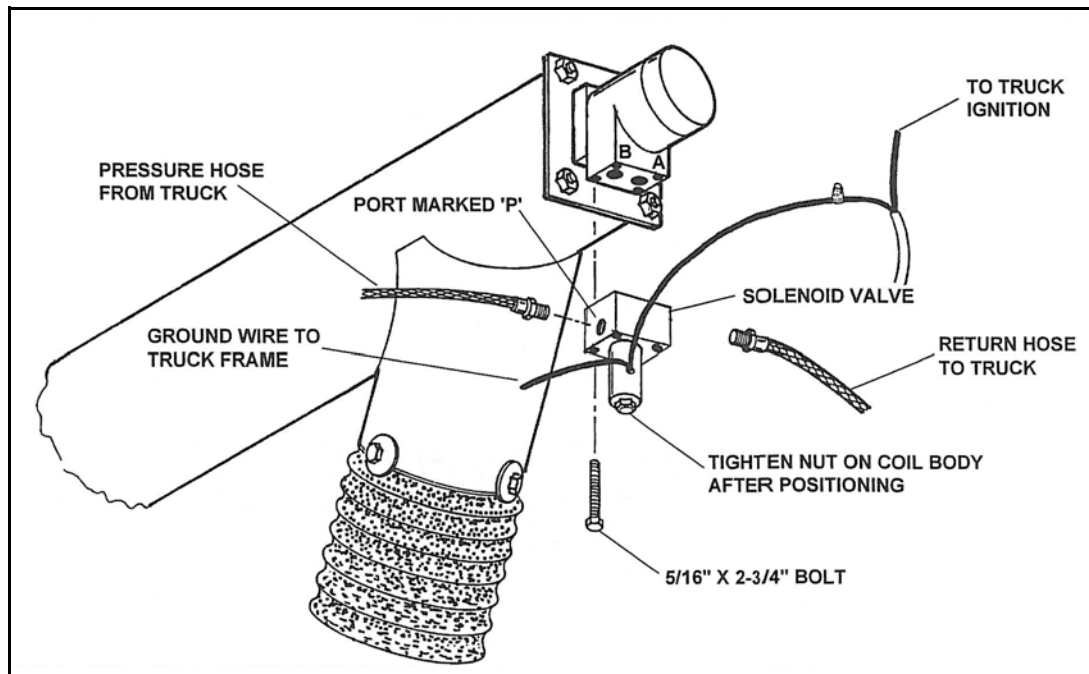

Figure 1
Important: *To obtain correct rotation of auger flighting, the "P" port on solenoid valve must be located on port "B" of the motor (see Figure 1).*
5. Connect the hydraulic hoses from the truck's hydraulic system to the solenoid valve as shown in Figure 1. Attach pressure line to port marked "P." Attach return line to other side.